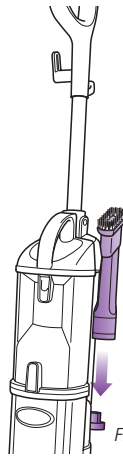

Fig. 3
- 2 Place the crevice/brush combo tool on the tool holder on the main body of the unit. (Fig. 3)